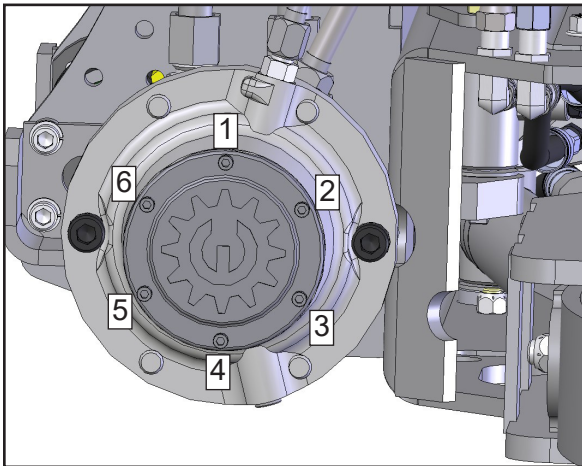

Figure 2
5. Confirm the presence of all six (6) mounting bolts (Figure 2).